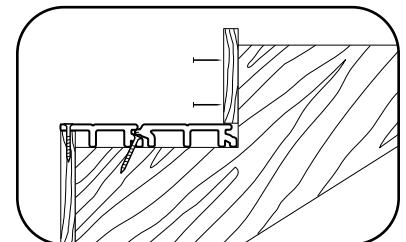

Fig. 23
- To create the next step, place the riser board directly on top of the last stair tread plank installed for the previous step (Fig. 23).